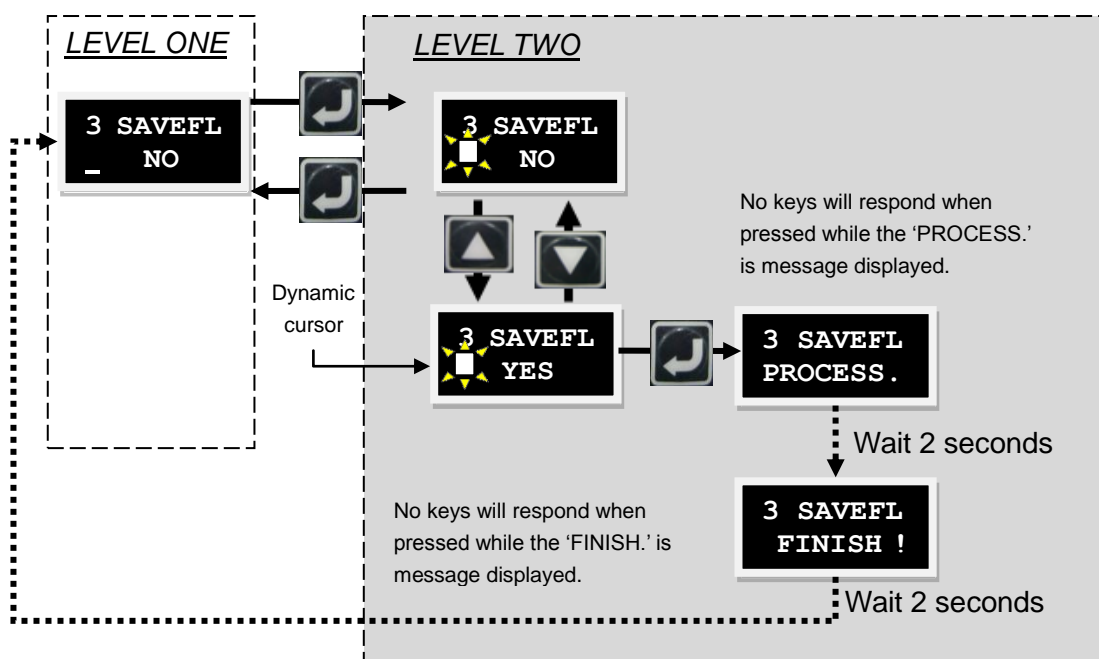

Fig. 5-8 Operation of 'Save to flash'
- (1) Press the Enter key to enter the SAVEFL option. (A solid flashing cursor appears on the left side of the second line.)
- (2) Press the Up or Down key (YES/NO) to select whether to save the parameters from the drive RAM to the flash memory. Select YES to continue.
- (3) When the servo is disable (DI), press the Enter key and the message 'PROCESS.' will appear on the screen, indicating that the parameters are being saved to the flash memory. The 'FINISH!' message will appear after completing the save. Please refer to Fig. 5-8 for an illustrated description of the procedure.